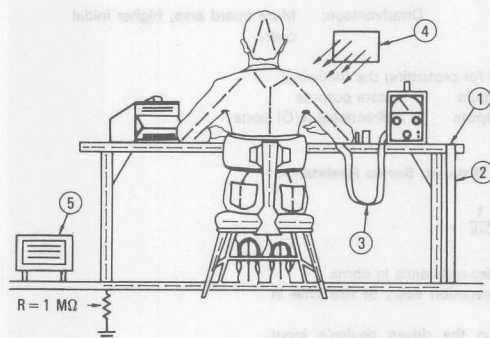

Figure 5. Typical Manufacturing Work Station
7. All CMOS devices should be placed on a grounded bench surface and operators should ground themselves prior to handling devices, because a worker can be statically charged with respect to the bench surface. Wrist straps in contact with skin are essential and should be tested daily. See Figure 5 for an example of a typical work station.